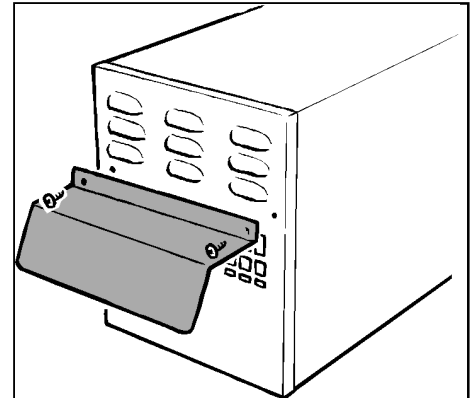

Figure 33 Weather Shield Installation
Fit the weather shield and guard to the back of the flue unit as detailed below (see figures 33 & 34).
10.2 Place the weather shield in position aligning the holes in the shield with those at the sides of the end plate. Secure with the two screws previously removed. see figure 33.